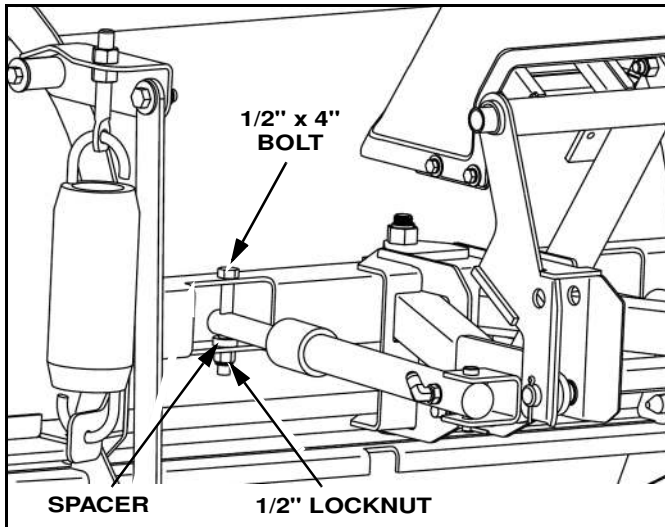

Figure 1-8
16. Extend the swing cylinders using plow control to align holes in cylinder rod with holes in the upper blade frame. Secure cylinders to the upper blade frame using 1/2" x 4" bolts, spacers, and 1/2" lock nut. (See Figure 1-8)